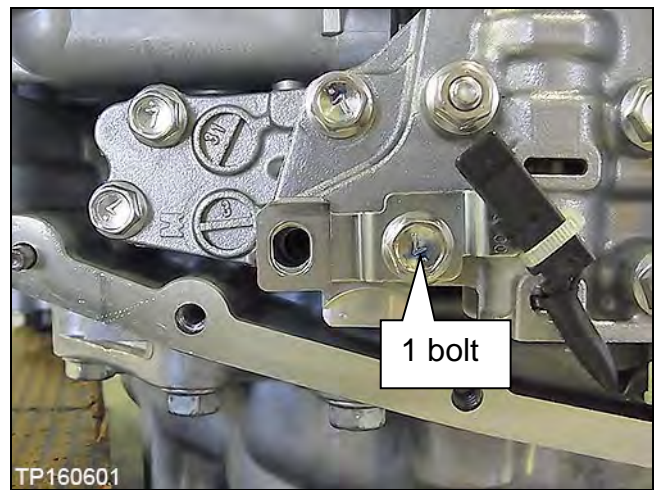

Figure 9J
5. Install the CVT fluid temperature sensor bracket to the valve body with one (1) bolt (Figure 9J).
**NOTE:** Leave one (1) bolt hole blank as it will be used to secure the oil strainer at a later step.